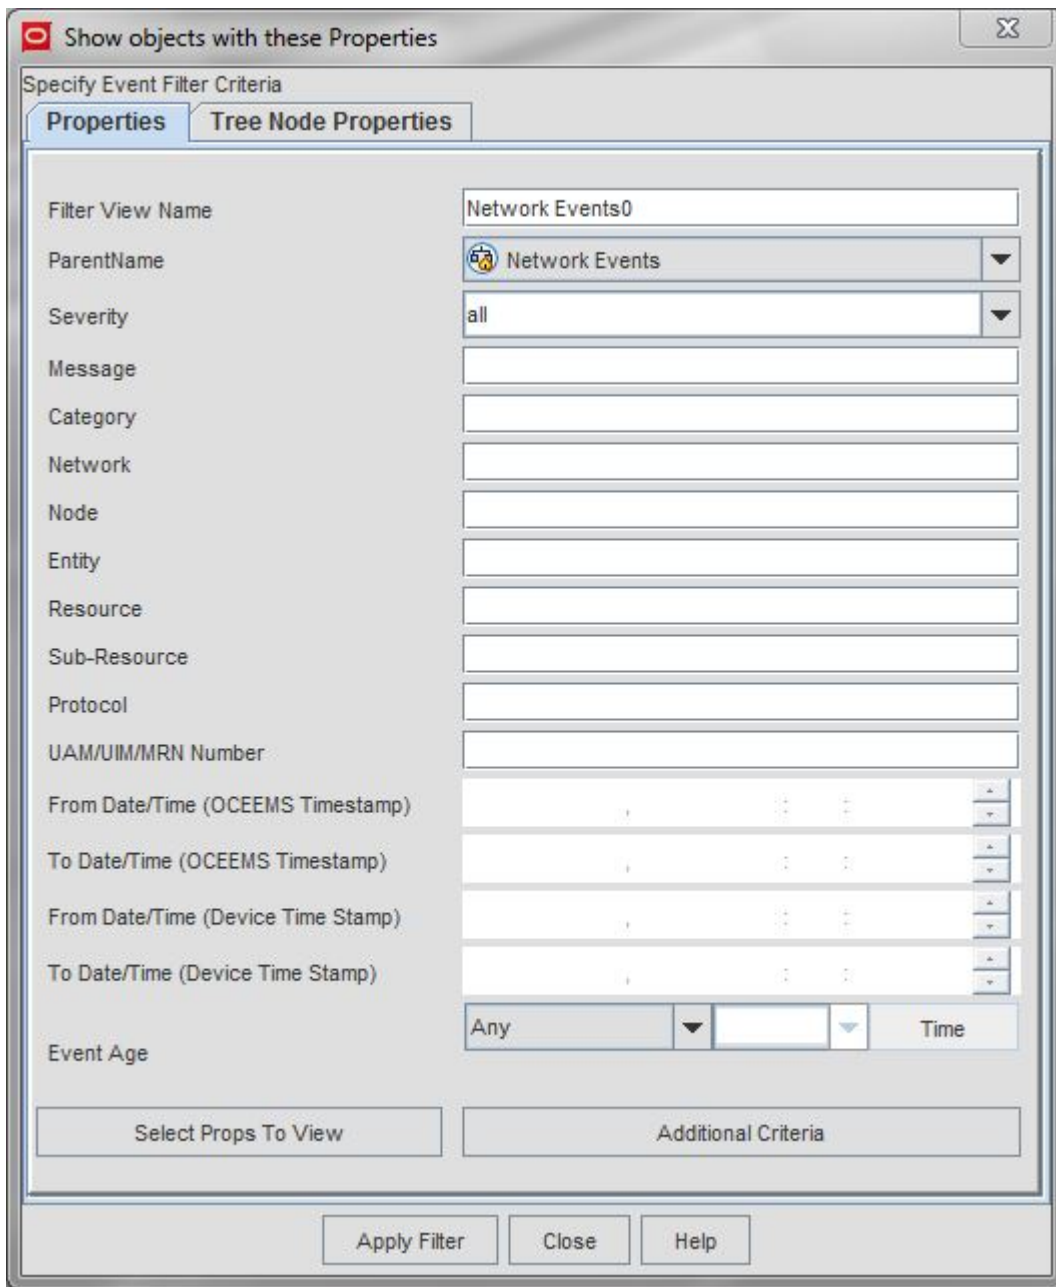
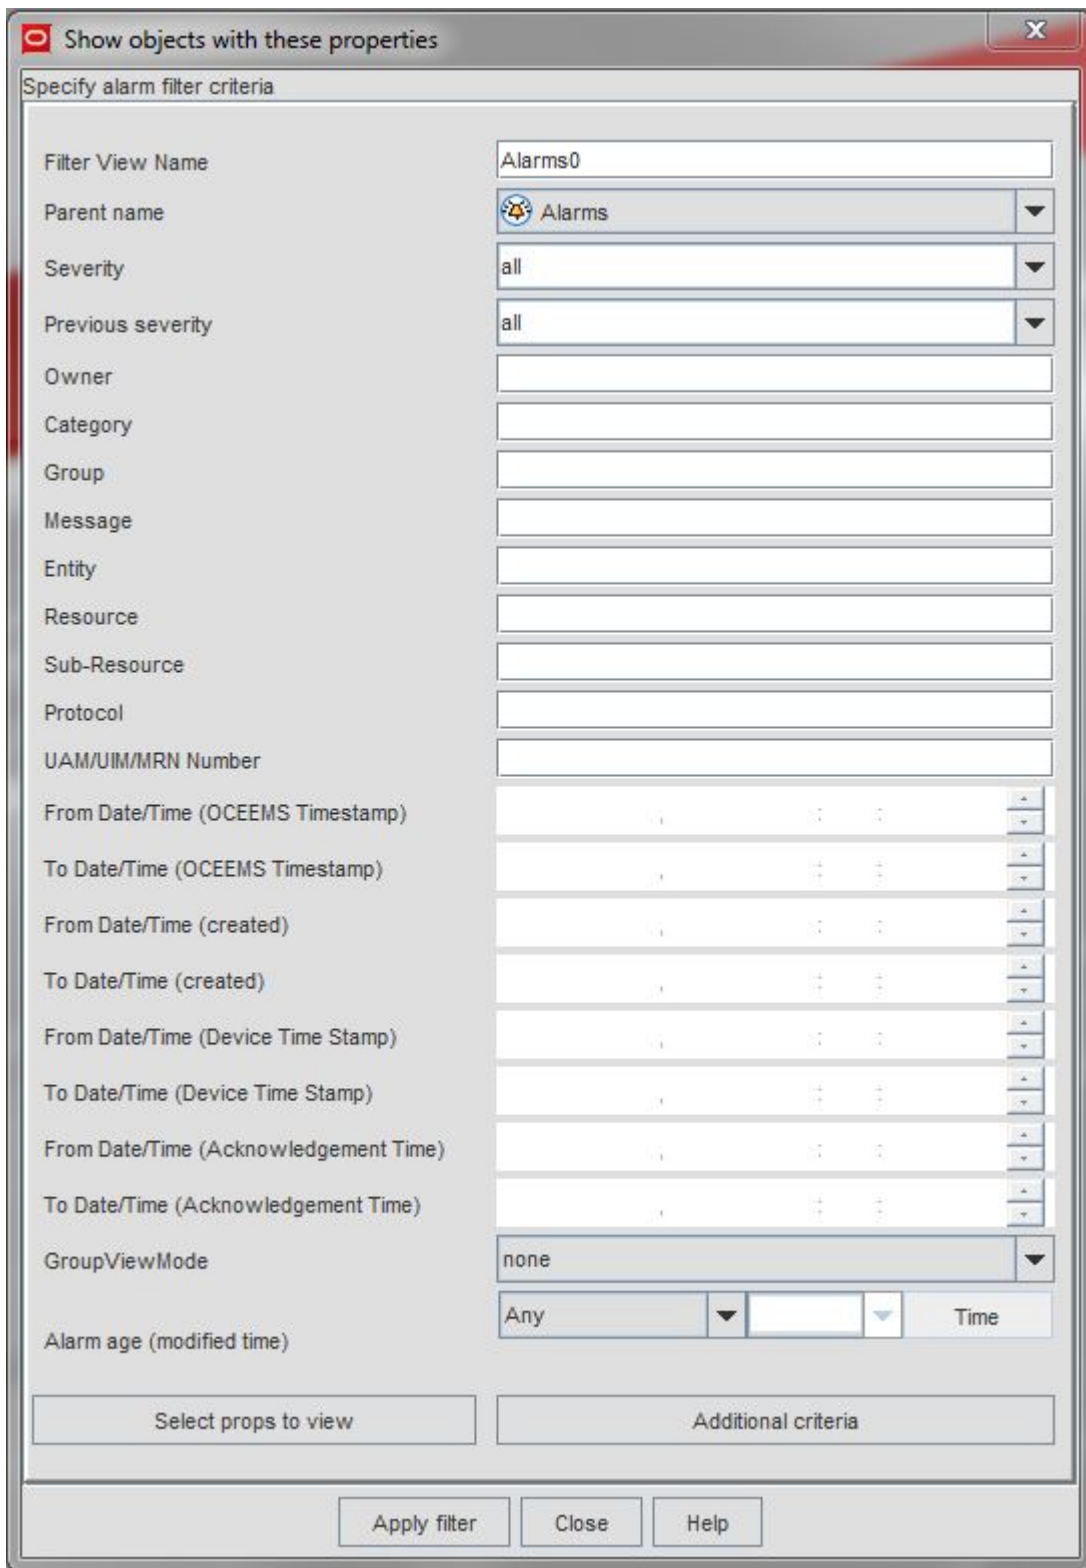

Figure 188: Specify Event Filter Criteria
Figure 189: Specify Alarm Filter Criteria
If the Network Events node was selected, then a **Show object with these Properties** dialog box with the title **Specify Event Filter Criteria** is displayed, as shown in Figure 188: Specify Event Filter Criteria. If the Alarms node was selected, then a **Show object with these Properties** dialog box with the title **Specify alarm filter criteria** is displayed, as shown in Figure 189: Specify Alarm Filter Criteria.
1. During custom view creation/modification, on the **Show object with these Properties** dialog box shown in Figure 188: Specify Event Filter Criteria and Figure 189: Specify Alarm Filter Criteria, click the **Select Props To View** button.